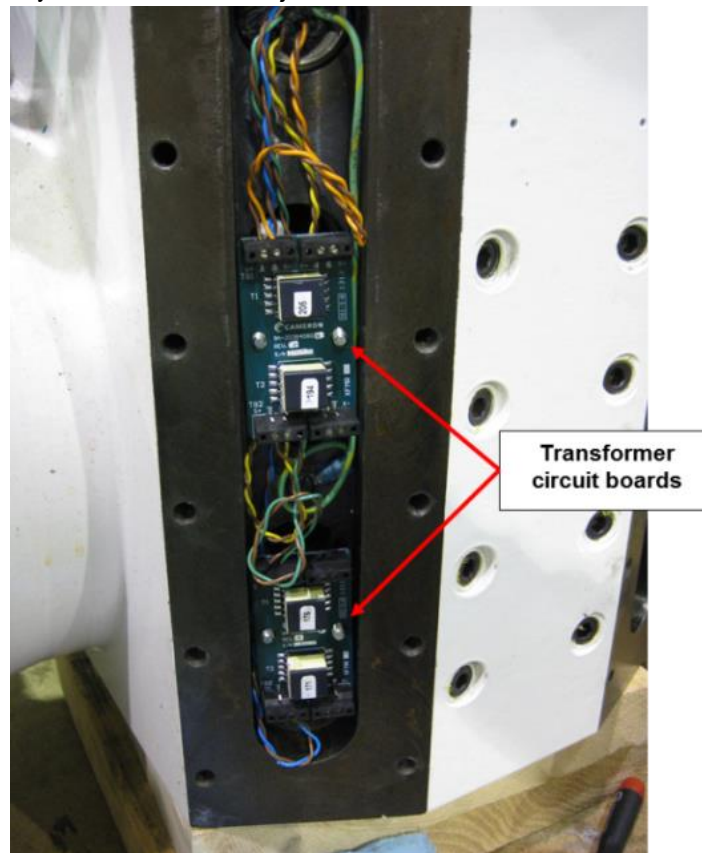

Figure 7.10 Transformer Circuit Boards
2. For manifold style meters disconnect the transducer leads from the transformer terminal block. If necessary, remove the transformer circuit board, shown below in Figure 7.10. For the single transducer enclosure style meter, the solder joint must be cut to remove the transducer.